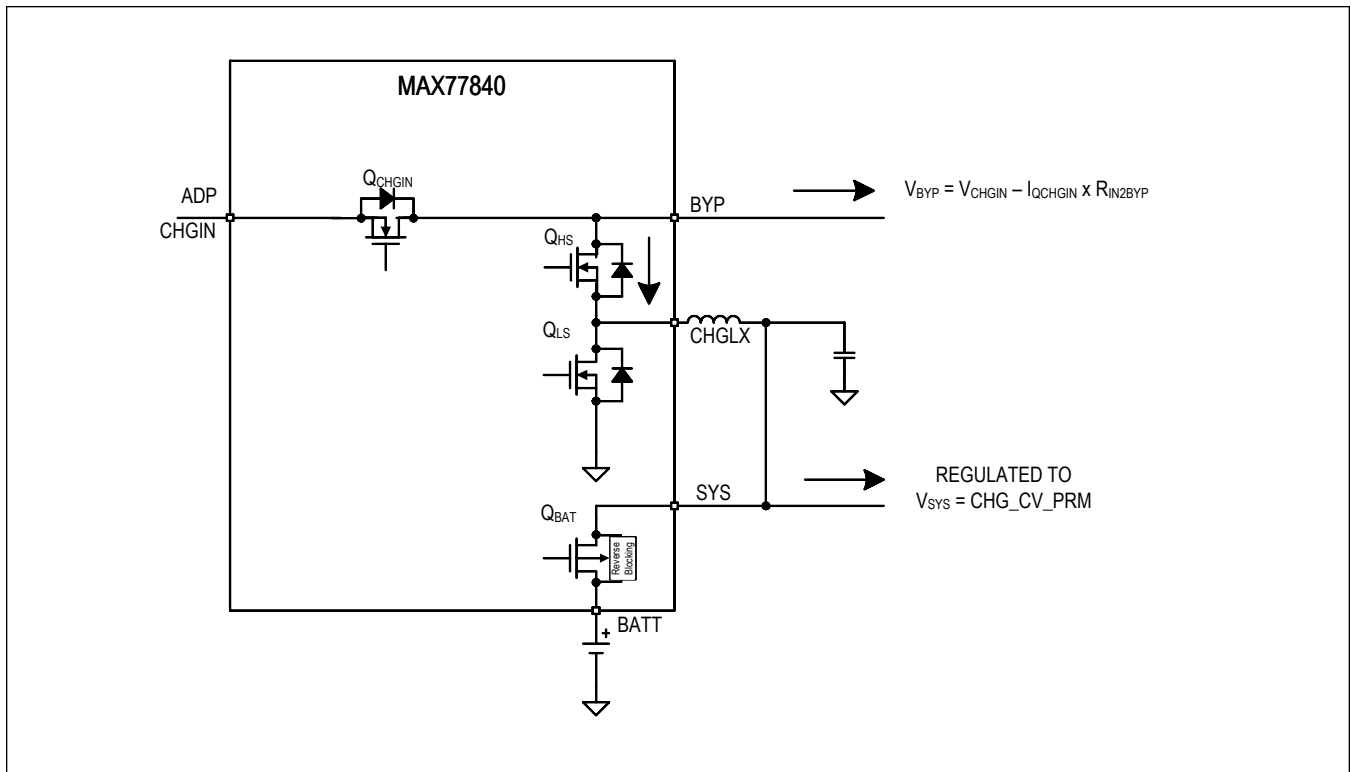

Figure 7. No Charge-Buck
5. NO CHARGE-BUCK, MODE = 0x0C: The adapter is detected within the input voltage operating range ( $Q_{CHGIN}$  = on). Battery is disconnected ( $Q_{BAT}$  = off) and the charger is operating in buck mode powering SYS node, see Figure 7.